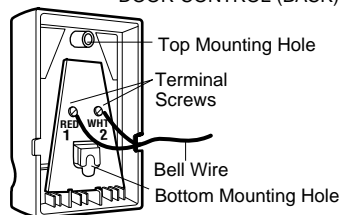

Figure 4 REMOVE COVER
2. Remove white cover by gently prying at slot in top of the cover with a small flat head screwdriver (Figure 4). Fasten with 6ABx1-1/4" self-tapping screws (drywall installation) or 6-32x1" machine screws (into gang box) as follows: